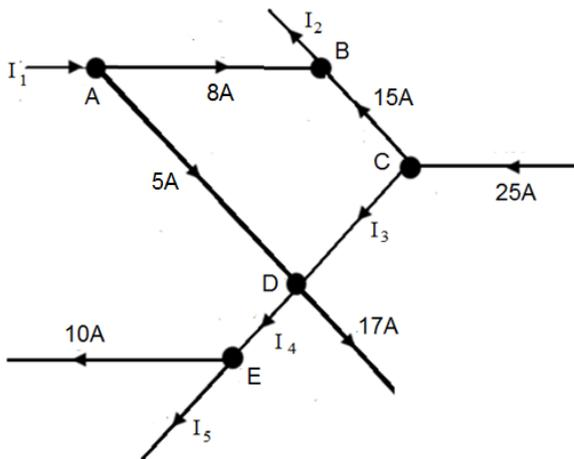

Figure Q3a
- (a) Determine the unknown currents,  $I_1$ ,  $I_2$ ,  $I_3$ ,  $I_4$  &  $I_5$  in figure Q3a. **(7 marks)**